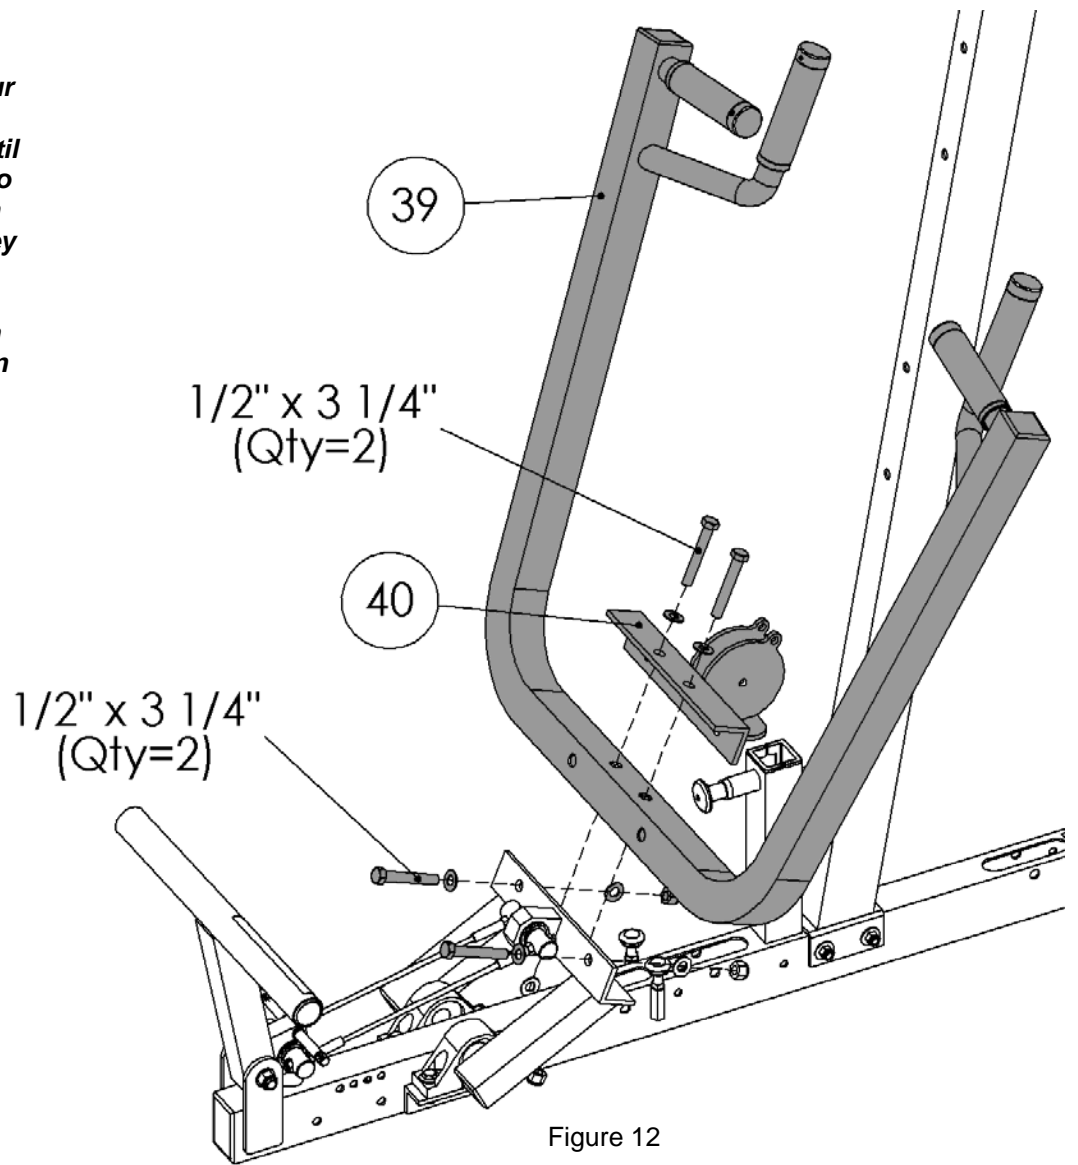

Figure 12
**Note:** Tighten the four HCS 1/2"-13 x 3 1/4" Bolts (108) evenly until snug. Tighten the two shown going through the Chest Press Pulley Holder (40) first, then the remaining two shown going through the Chest Pivot (37) in Figure 12 below.